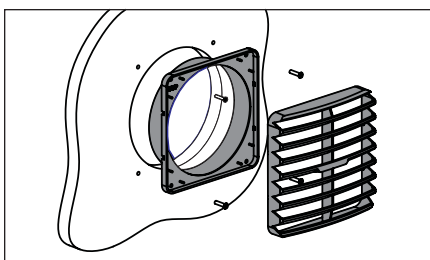

Fig. 13
- 3 Fix grille base with four 6 G screws and snap fit the grille louvers over the grille base as shown in Fig. 13.